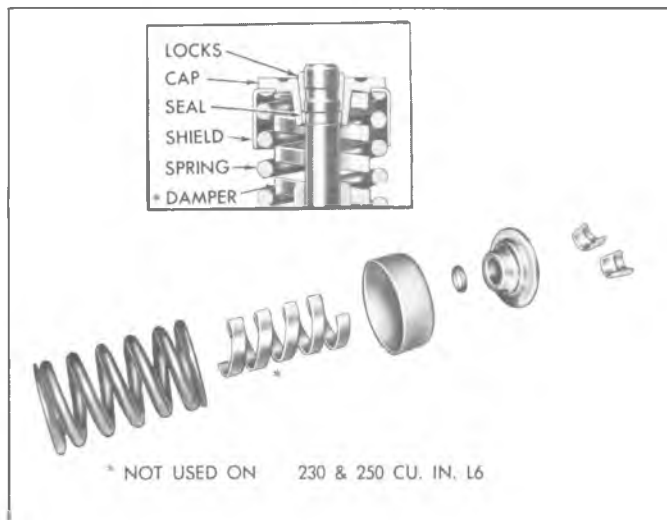

Fig. 26—Valve Spring Installation (In Line and 307, 327 V8)
- a. Set the valve spring shim, valve spring (with damper if used), valve shield and valve cap or rotator in place (fig. 26). The close coiled end of the spring is installed against the cylinder head.